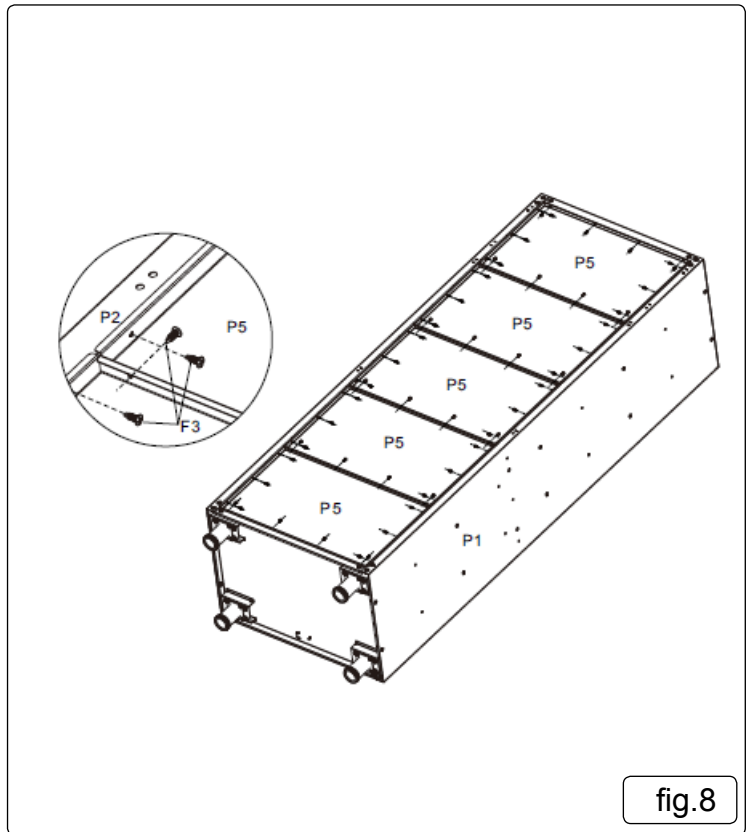

fig.8
5.7. Position back panels and screw together as per fig.8.